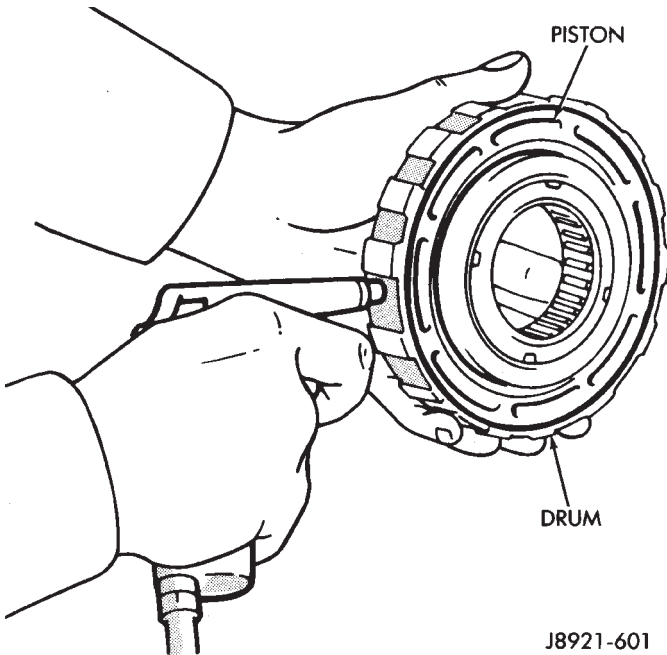

Fig. 7 Checking Second Brake Piston Operation
(1) Lubricate and install new O-rings on brake piston. Then install brake piston in drum.
(2) Install return springs and retainer on brake piston.
(3) Compress return springs with shop press and Compressor Tool 7538. Install piston snap ring and remove brake assembly from press.
(4) Check brake piston operation with low pressure compressed air (Fig. 7). Apply air pressure through feed hole in drum. Piston should move smoothly when applying-releasing air pressure.